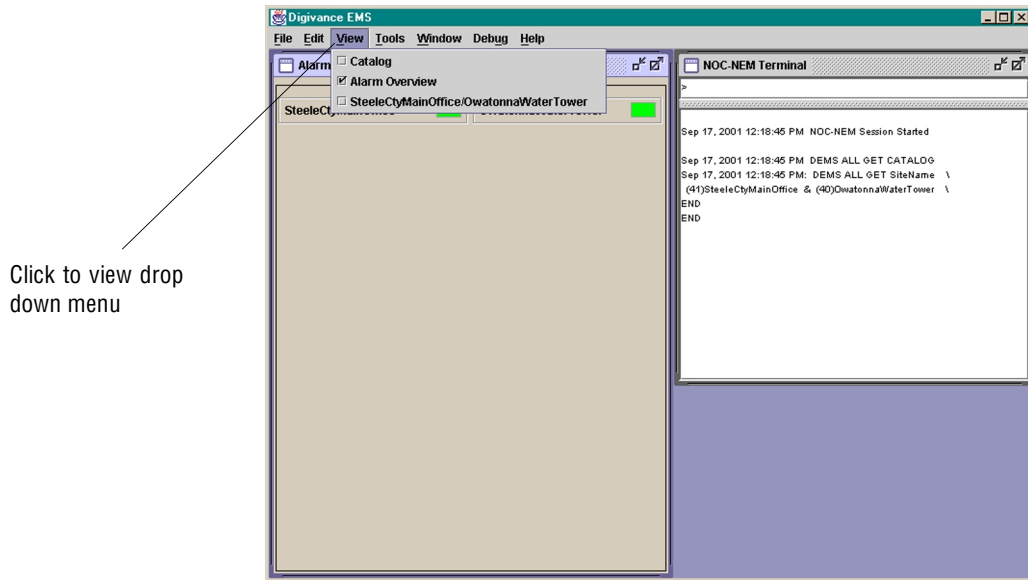

Figure 4-1. Digivance Element Management System Main Window
8. Start up the Digivance EMS software program. The EMS main window will open as shown in Figure 4-1. Note: The EMS software should be installed on a PC-type computer and the PC's COM port should be configured to interface with the HU. For information about installing the EMS software and configuring the PC's COM port, refer to the Digivance Element Management System Software User Manual (ADCP-75-118).